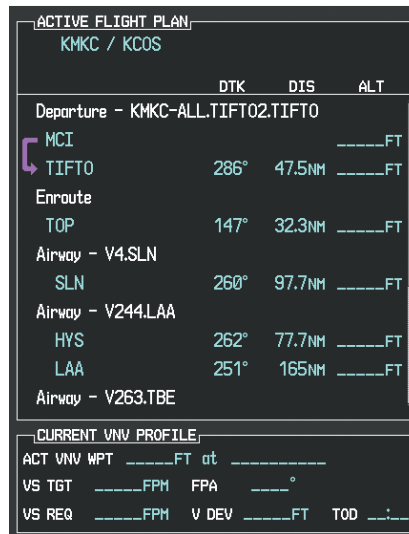

Figure 5-113 V4 is Loaded in the Flight Plan
l) V4 is now loaded into the flight plan as shown in Figure 5-113.